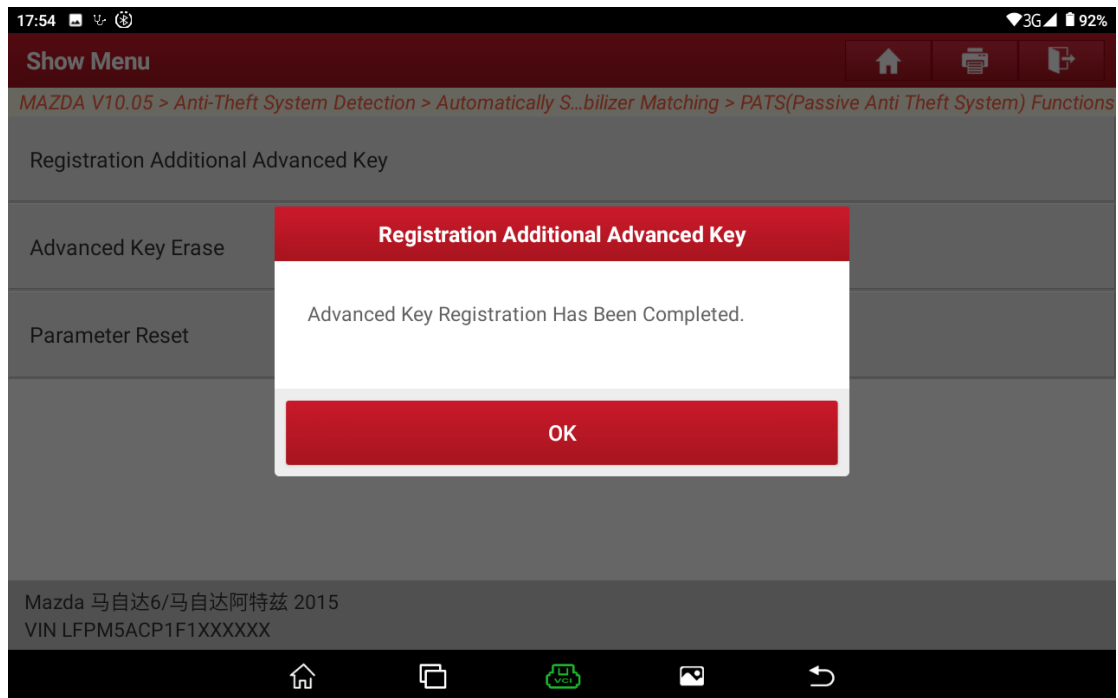

Figure A16
14. Registration is completed. See Figure A16.